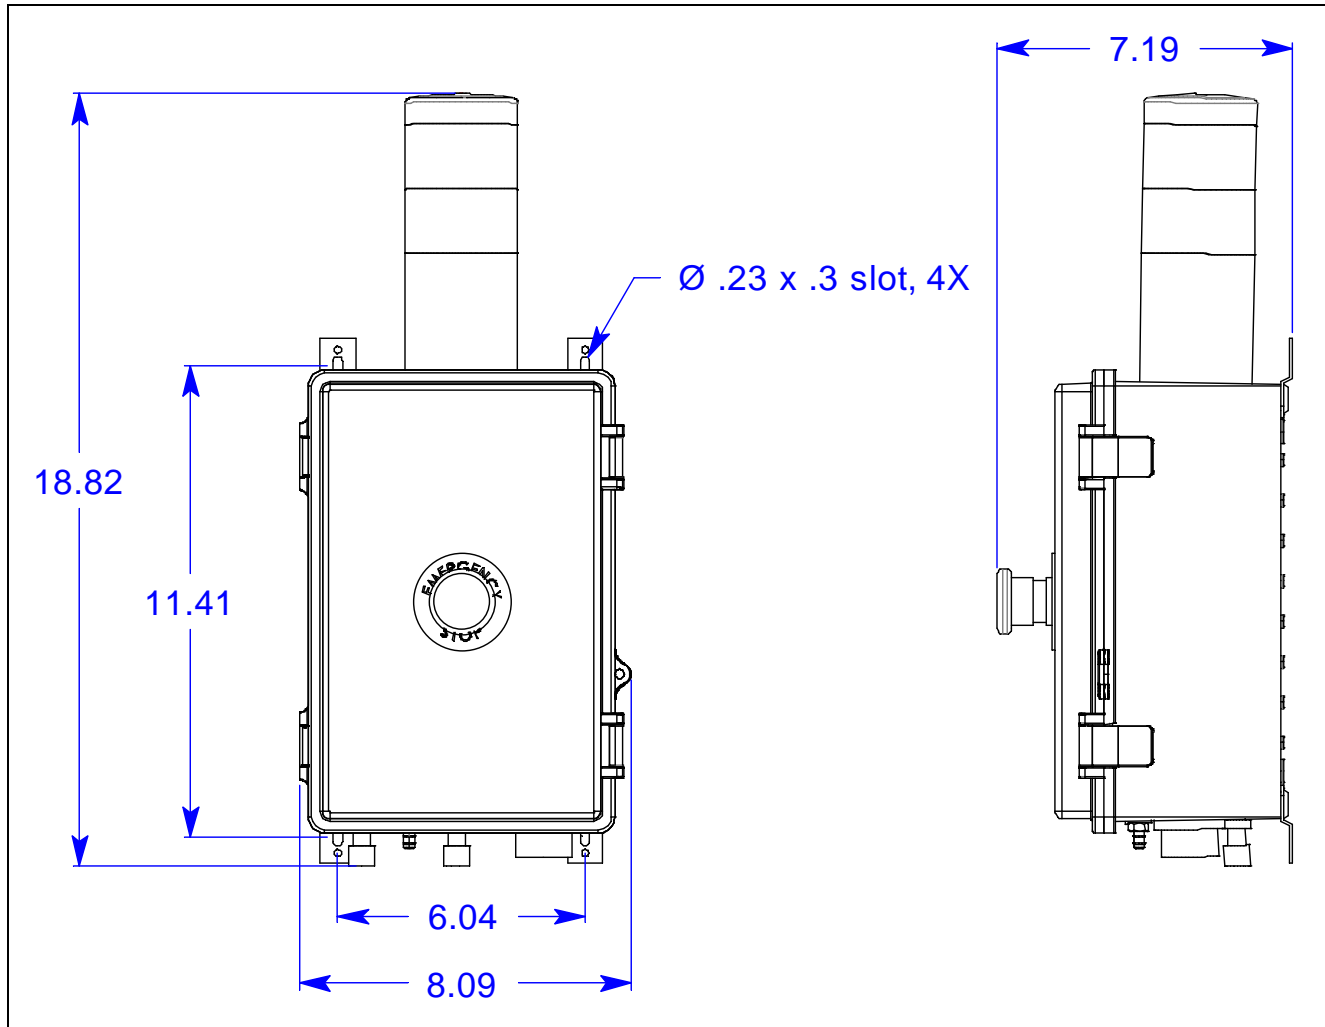

Figure 3: Outline & Mounting Dimensions
2. The 82-5223 is shipped with the mounting feet positioned under the housing. Loosen the screws that secure the feet to the housing, rotate the feet to their mounting position as shown in Figure 3, then tighten the screws.